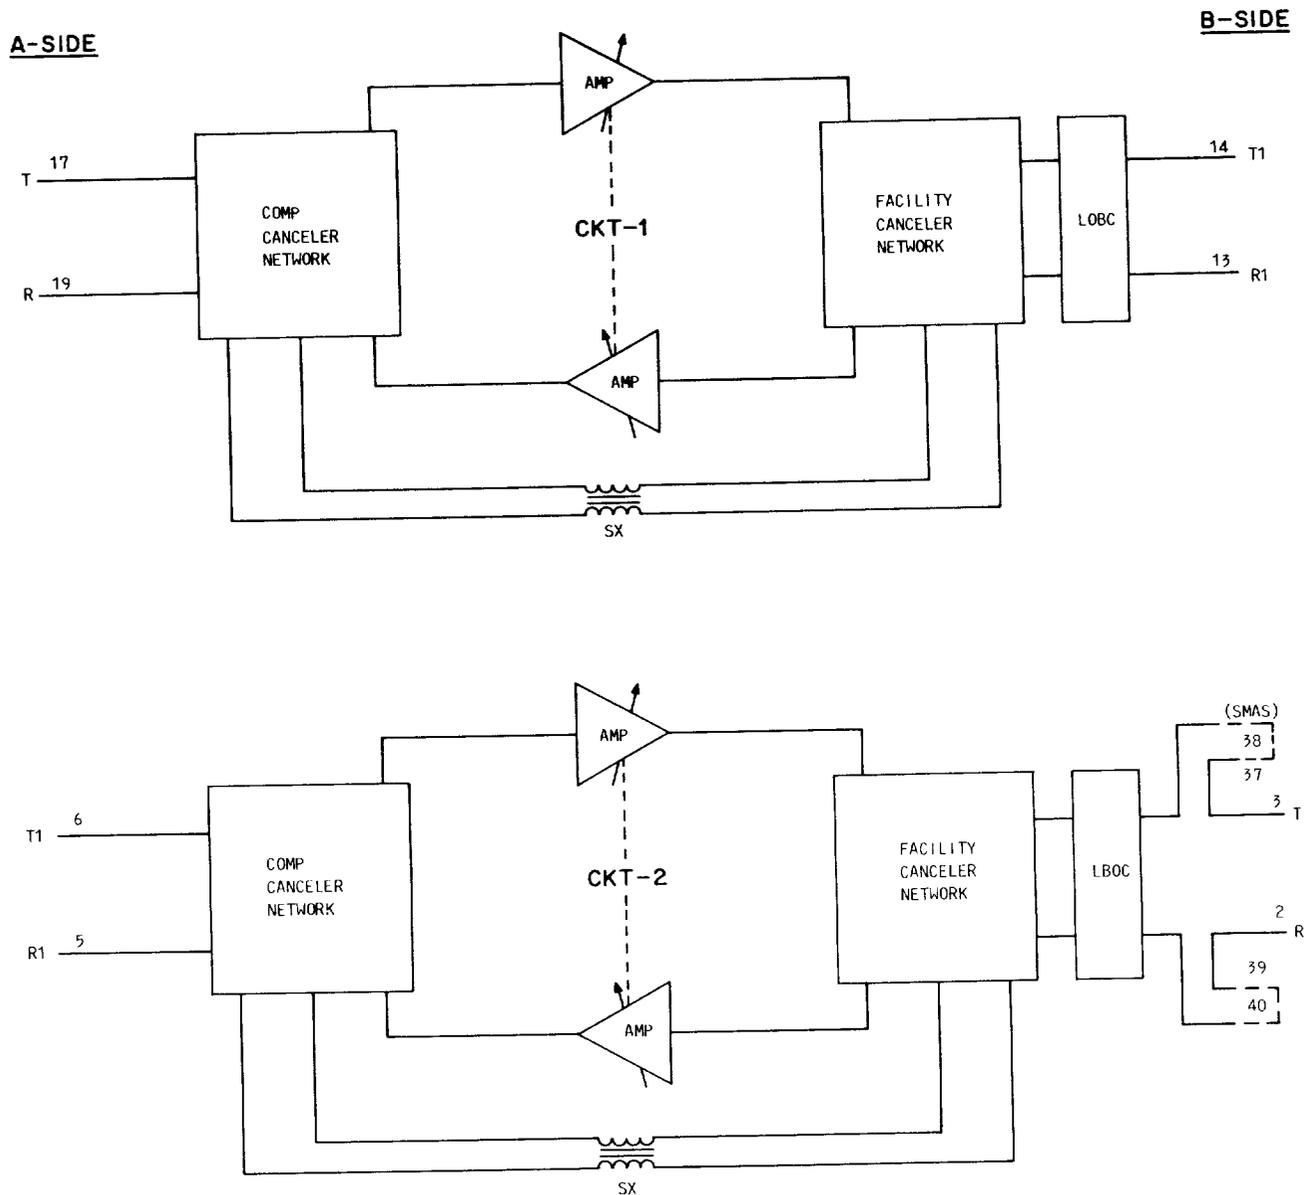

Fig. 2—Block Diagram, J99343PL (L1 and L2)
in the PL, L1 unit provide gain and equalization for 2-wire circuits between terminal equipment and loaded facilities. Additional functions and equipment, described in the following paragraphs, are applicable to both repeaters in the PL, L1 unit. Figure 2 shows a block diagram of the J99343PL, L1.
**3.01** The J99343PL, L2 dual repeater unit which provides the same functions as the J99343PL, L1 repeater, has been designed to accommodate two power supply control switches. These switches, described in paragraph 3.12, allow the -48 Vdc power to be disconnected from one or both repeaters in the PL, L2 unit. When one repeater of the PL, L2 unit is not used, power to this repeater can be disconnected thereby preventing a singing condition in this unused repeater. The J99343PL, L2 terminal repeater is shown in Fig. 3. Each of the two repeaters contained in the PL, L2 unit provides gain and equalization for 2-wire circuits between terminal equipment and loaded facilities. Additional functions and equipment, described in the following paragraphs, are applicable to both repeaters in the PL, L2 unit. Figure 2 shows a block diagram of the J99343PL, L2.